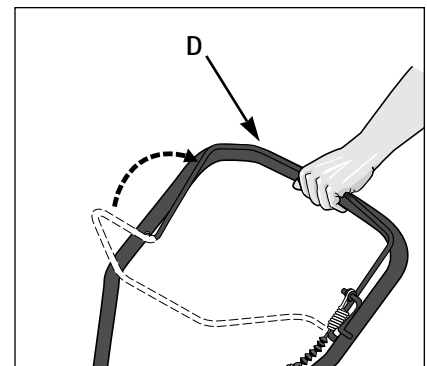

Figure 4-6
2. Slowly close the control bail (D, Figure 4-6) against the handlebars to activate the trimmer head. The faster the engine throttle control is set at, the faster the trimmer head line will revolve. Use higher speed settings for the toughest jobs. Use lower speeds (and lighter weight line) where precision cutting is required. And experiment!
Let go of the control bail (D, Figure 4-6). It will return to its open position and the trimmer head will stop turning.